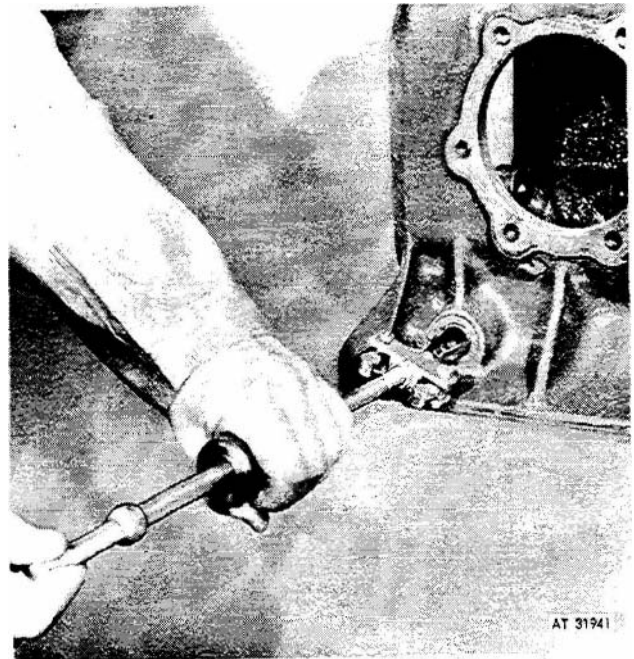

Figure 3-145. Removing shaft seal from housing.
(17) Disconnect spring (35) and ball (36) by removing bolt (33) and washer (34). Disconnect shifter fork (39) by removing setscrew (38), and remove shaft (37) and shifter fork (39) from housing (15).
(18) Mark alignment marks on shaft (62) and lever (63). Disconnect shifter fork (30) and lever (63) by removing screws (31 and 64). Remove shaft (62) and shifter fork from housing (15). Remove lever (63) from shaft (62).
(19) Using a suitable puller, remove seal (61) from housing (15) as shown in figure 3-145.